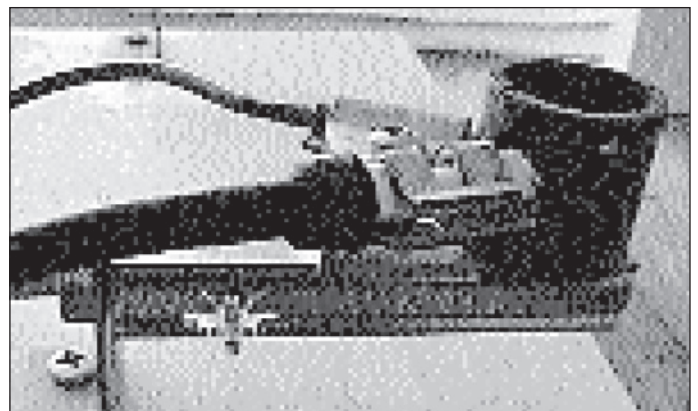

Figure 5-13.
8. Is the burner dirty? (See Figure 5-13)